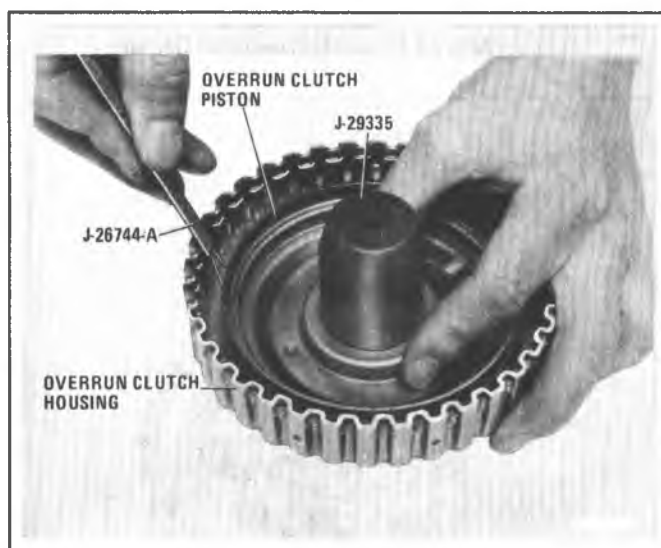

Figure 7A6-182 Installing Overrun Clutch Piston Using Tools
6. Remove overdrive roller clutch cam assembly, and inspect roller clutch cam ramps for damage (Figure 7A6-178).
7. Remove roller clutch assembly and inspect roller bearings, cage and springs for damage or wear (Figure 7A6-179).